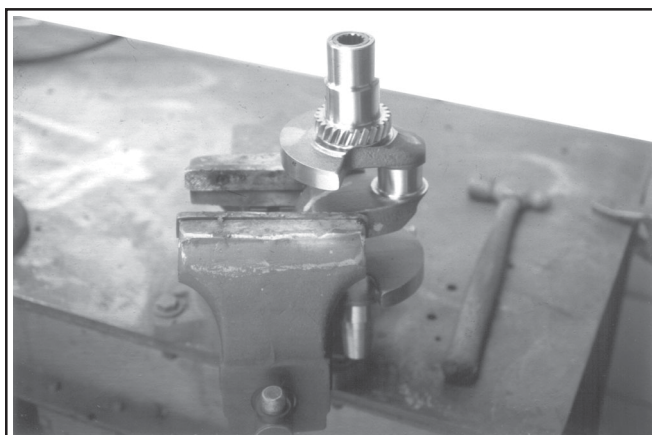

Figure 2.
2. Remove the crankshaft from the engine and clamp it firmly in a large vise, but be careful not to damage any of the machined surfaces. See Figure 2.